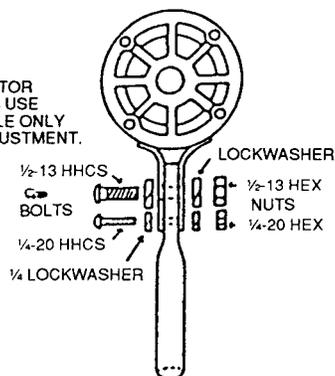

FIG. 2
- 2430 and LWB Models: Assemble with 1/2" and 1/4" bolts, washers and nuts provided (Figure 2).